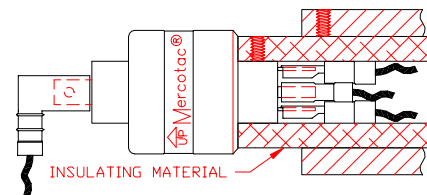

Fig 6 Thermal Insulation
8. The connector contains plastic materials, which are sensitive to heat. Over heating will cause reduced life or connector failure. Provide thermal insulation where necessary to prevent temperature of the unit from exceeding 140°F (60°C). <Fig 6>